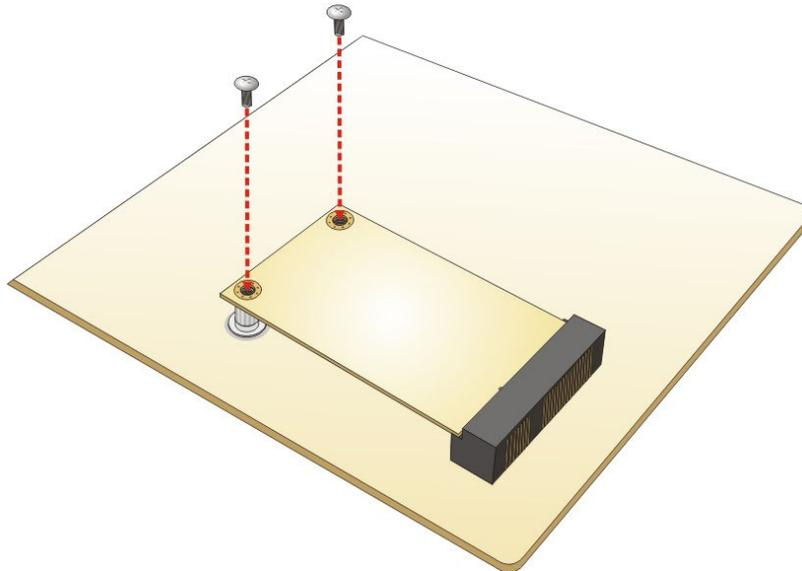

Figure 4-11: Securing the mSATA Module
Step 4: **Secure the mSATA module.** Secure the mSATA module with the retention screws previously removed (Figure 4-11).